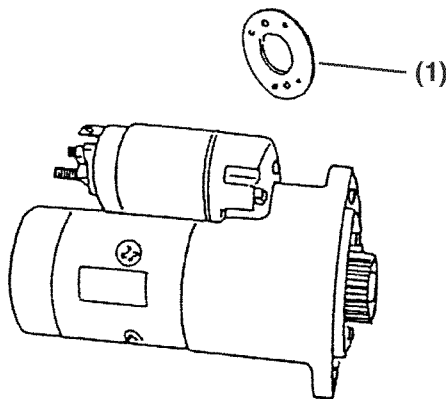

Figure 11-34
- If the measured L dimension is outside the standard range, adjust the dust covers to obtain the standard range. Dust covers (Figure 11-34, (1)) are available in 0.020 in (0.5 mm) and 0.031 in (0.8 mm) thicknesses.